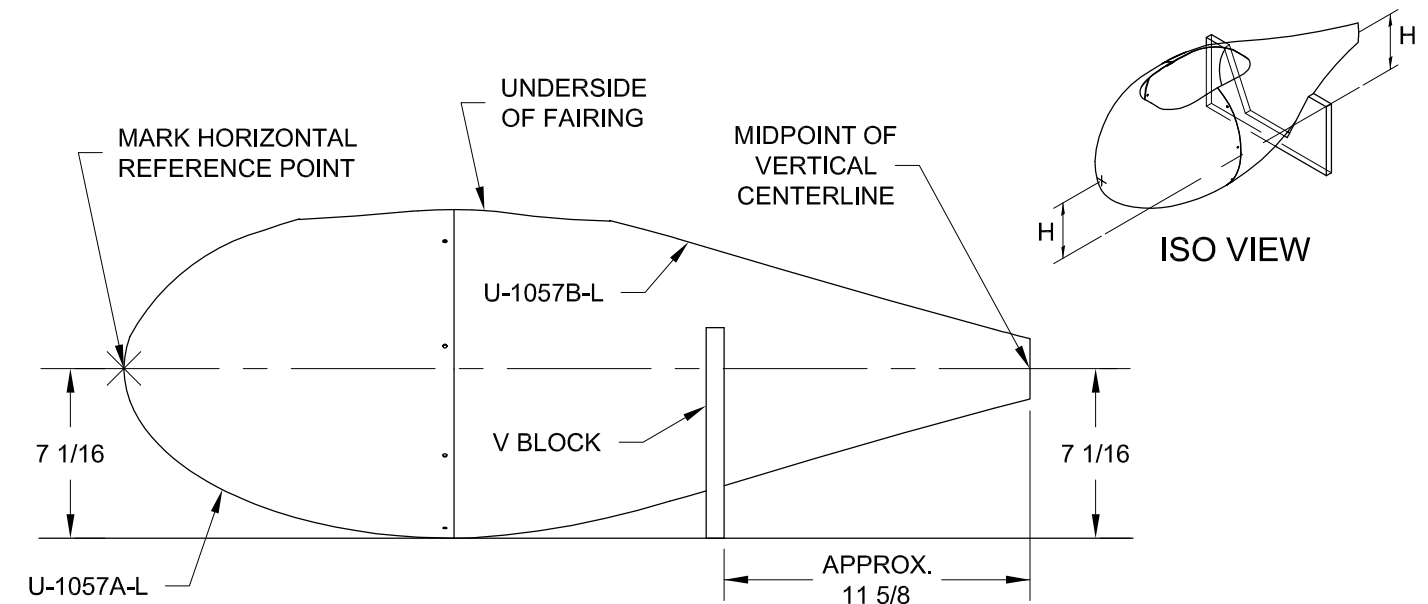

FIGURE 3:
Step 3: Place the assembled U-1057A Wheel Fairing Front and the U-1057B Wheel Fairing Rear into the 'V' block with the wheel opening facing upward as shown in the Iso View of Figure 3. Rotate the assembled fairing until the centerline drawn at the back of the wheel fairing rear is vertical. Measure up from the table as per the callouts to the midpoint of the vertical centerline at the aft end of the wheel fairing rear. This levels the assembled fairing. Measure up from the table the same amount at the forward end of the wheel fairing front and place a horizontal reference mark as shown in Figure 3. Disassemble the fairings.